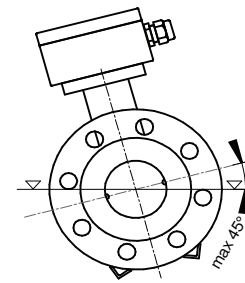

Figure 2.10
4. For horizontal installation of the FM100, the electrodes must be within 45° of the horizontal plane (see Figure 2.10).